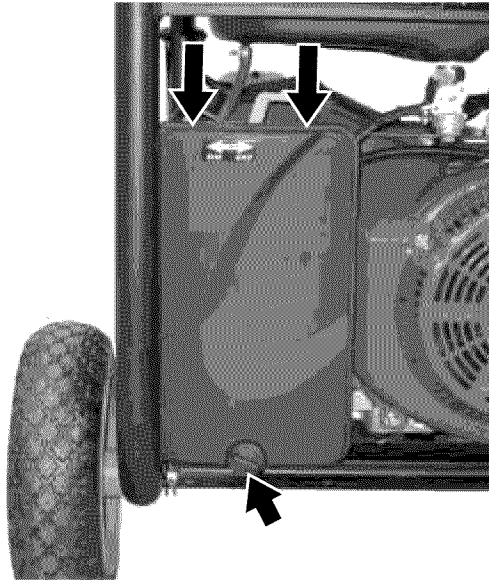

Figure 38 – Installation of Air Cleaner Cover
12. Install the air cleaner cover by re-engaging the tabs on the top of the air cleaner assembly and then installing the release knob by turning clockwise (see Figure 38).